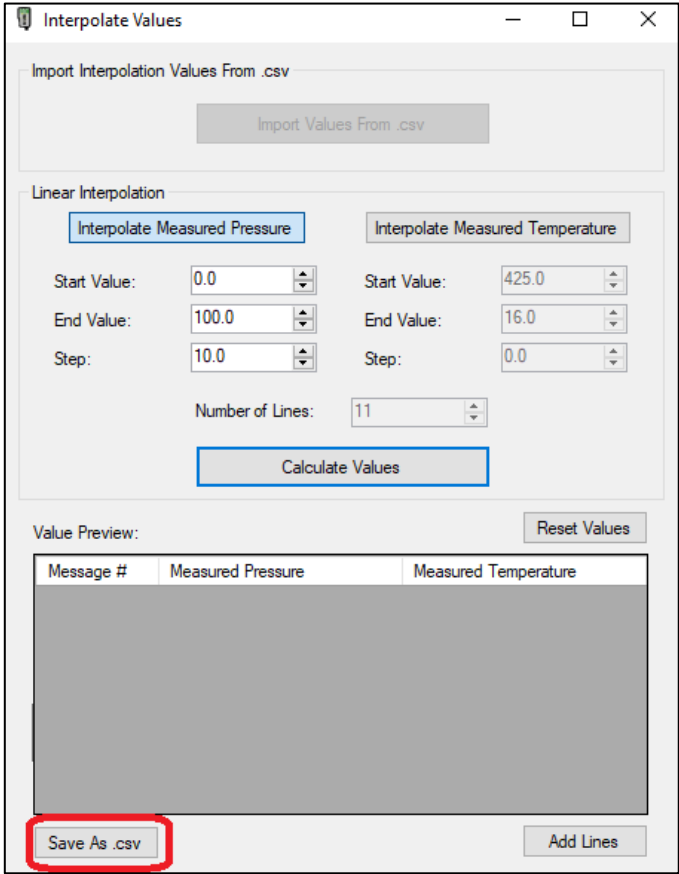
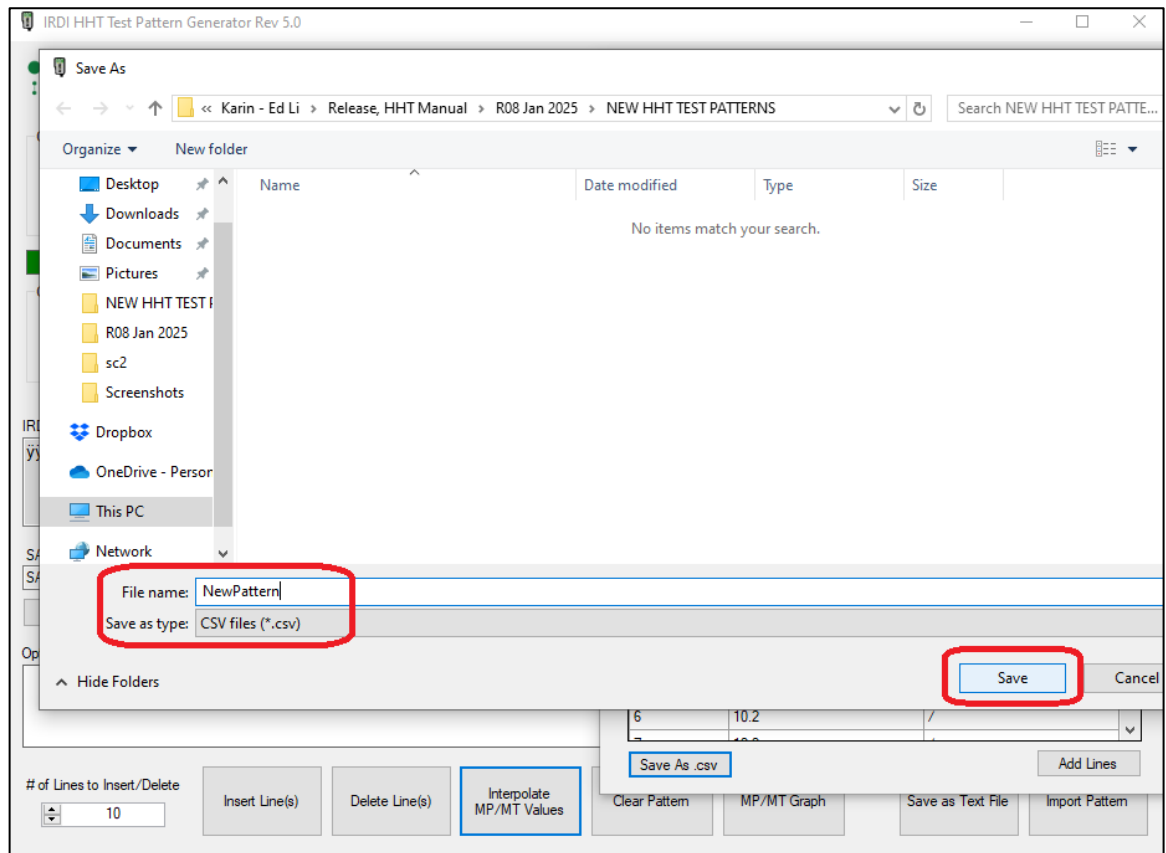

FIGURE 6-39 HHT TEST PATTERN GENERATOR SOFTWARE –SAVE INTERPOLATION (STEP)
FIGURE 6-40 HHT TEST PATTERN GENERATOR SOFTWARE –SAVE FILE (STEP)
STEP 5	<p>To save this interpolated test pattern to a file, click on the “Save as csv” button – see Figure 6-39.</p> <p>A browser window will pop up – see Figure 6-40. Browse to the folder where you want to save the file, enter a file name for this test pattern, and click on the “Save” button, to save the file.</p>